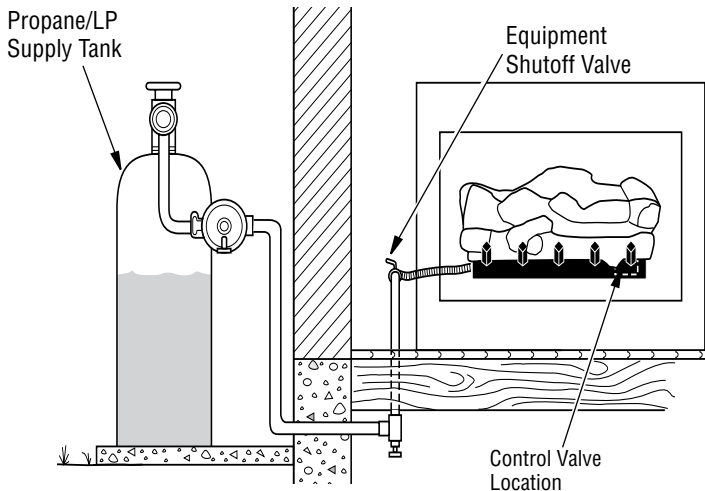
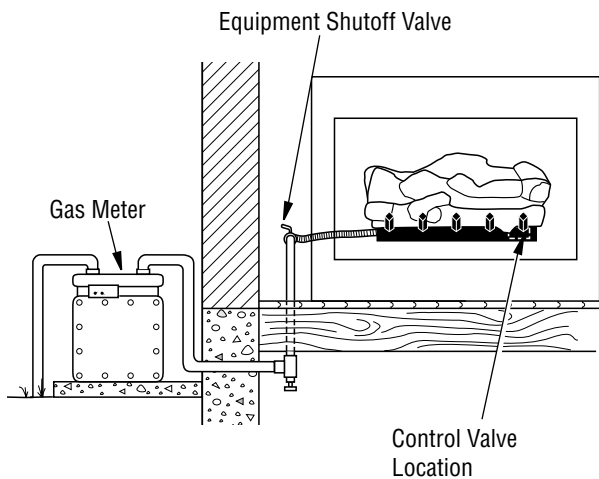

Figure 14 - Checking Gas Joints (Propane/LP Only)
Figure 15 - Checking Gas Joints (Natural Gas Only)
3. Check all joints from gas meter to equipment shutoff valve for natural gas or propane/LP supply to equipment shutoff valve for propane/LP (see **Figures 14 or 15, Pages 10-11**). Apply noncorrosive leak detection fluid to all joints. Bubbles forming show a leak.
4. Check all joints from gas meter to equipment shutoff valve for natural gas or propane/LP supply to equipment shutoff valve for propane/LP (see **Figure 14 or Figure 15, Page 11**). Apply noncorrosive leak detection fluid to all joints. Bubbles forming show a leak.